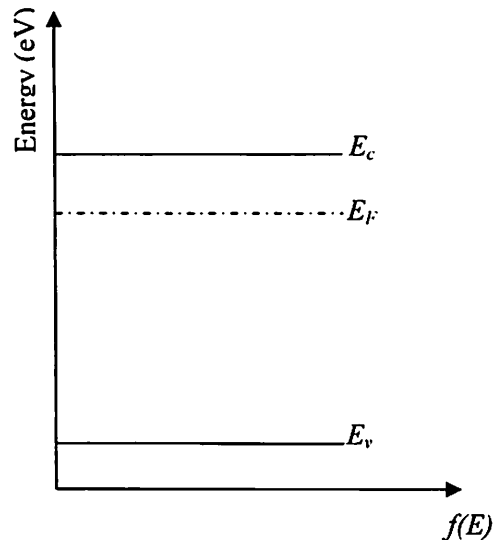

Figure 1.1: Energy band diagram for a doped semiconductor at room temperature
- b) In Fig.1.1 the energy band diagram of a doped semiconductor is given at room temperature. Draw the Fermi distribution function $f(E)$ for this semiconductor on this graph and indicate 3 values on the $f(E)$ axis. [6]